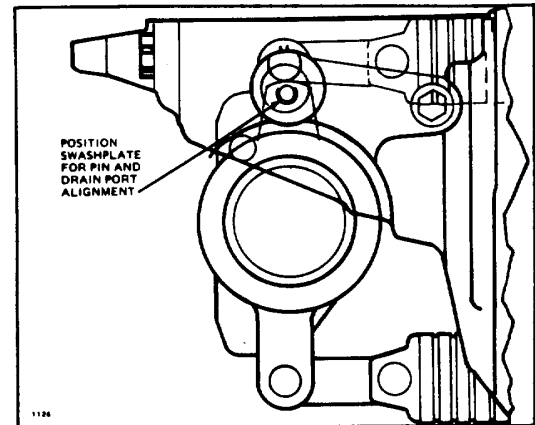

FIGURE 5. Location of swashplate assembly in pump housing.
5. Remove the pin from the drag link and swashplate through the case drain port using a magnet or other tool. Remove the drag link. On some models it may be necessary to hold the swashplate off neutral to align the pin with the case drain hole. See Figure 5.